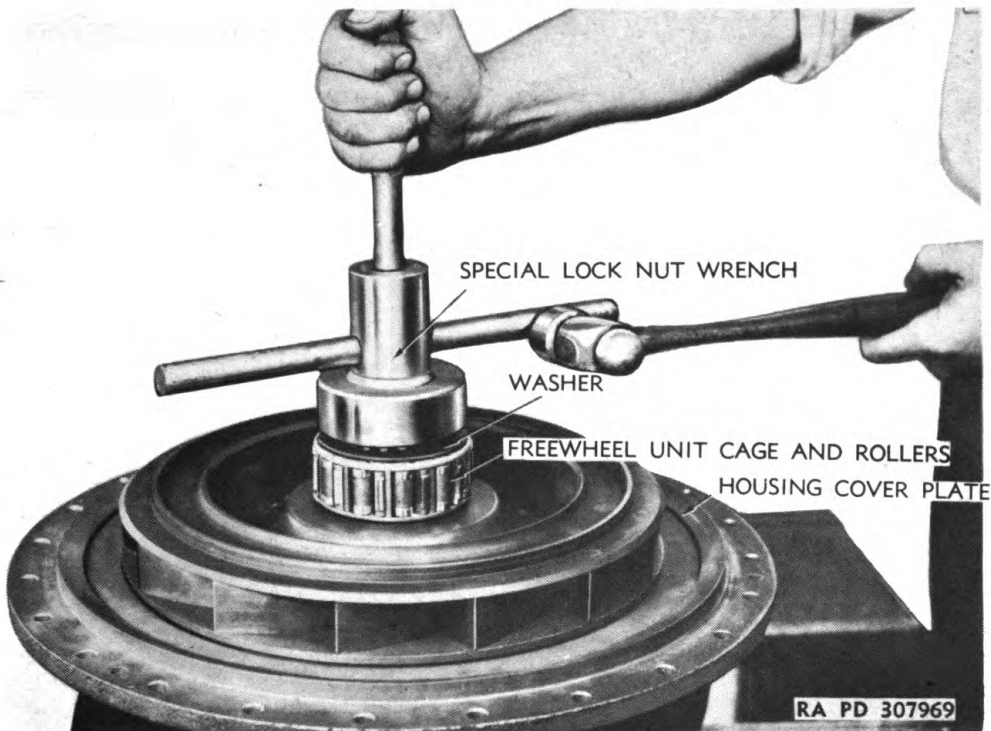
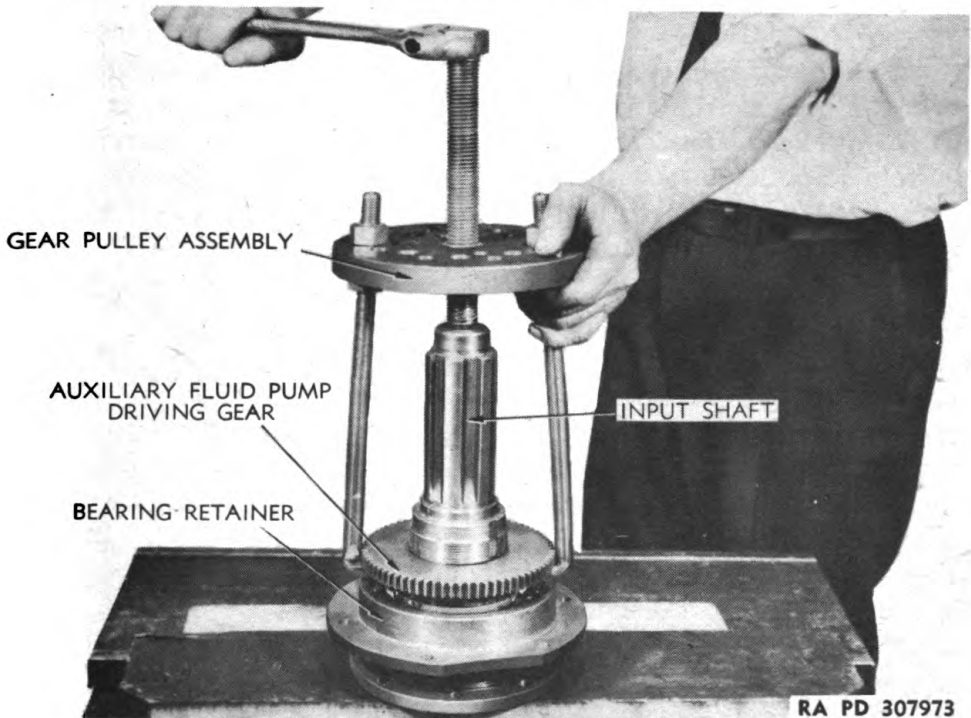

Figure 161 – Removing Input Shaft End Nut, Using Wrench 41-W-3160
**Figure 163 — Input Shaft Assembly Pressed From
f. Remove Input Shaft Assembly From Housing Cover Plate. Remove the six cap screws attaching the input bearing retainer (fig. 162) to cover plate. Turn the turbine housing cover plate over to rest on the input shaft flange. Bend the locking lug out of nut and remove lock nut with wrench (41-W-3160) as shown in figure 161. Take off washer and lift cage with rollers from the inner race. Place the housing in a support which bears on the outer flange of cover and leaves about 6-inches space below the input shaft flange as shown in figure 162. Press the input shaft out of the impeller as shown in figure 163. This will free the inner race of the pilot bearing, which together with the washer below it may be lifted off.